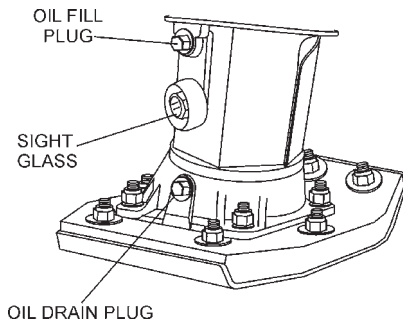

Figure 1. Foot Housing Sight Glass
1. Check the oil level through the oil level sight glass (Figure 1) at the rear of the tamper foot.
2. If oil is not visible, add 10W-30 SE, SF or higher grade motor oil into the oil fill plug opening (Figure 1). The bath contains approximately 1.7 pints (800 cc.). The oil level should be kept at the half way point of the sight glass.